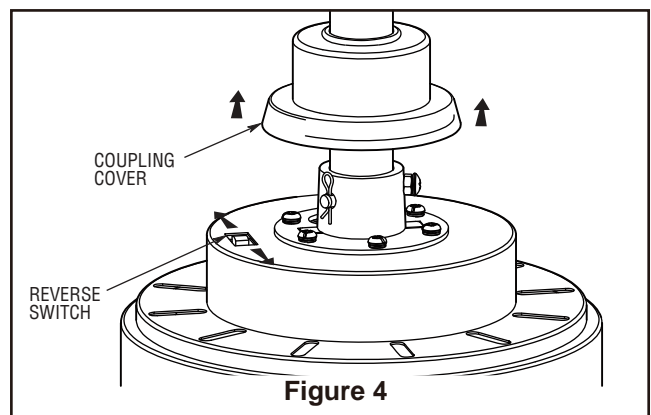

Figure 4
4. If airflow is desired in the opposite direction, turn the fan off and wait for the blades to stop turning. Slide the coupling cover up to expose the reverse switch. Then slide the reverse switch on top of motor assembly to the opposite position and turn fan on again (Figure 4).